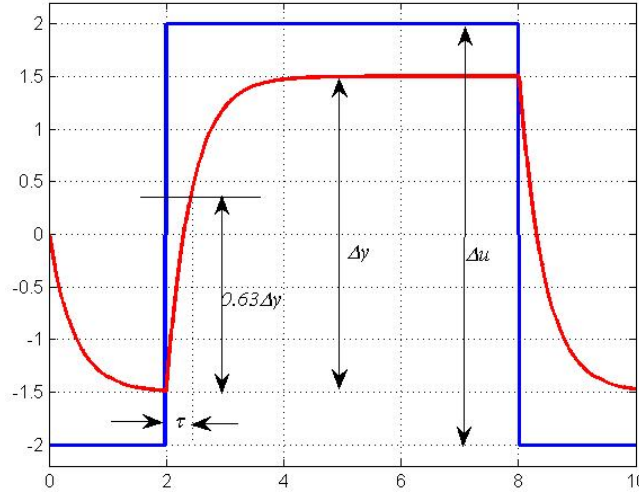

Figure 4: Model identification from step response
where, u_{init} and u_{final} are the input voltage levels before and after the transition, respectively. Output voltage before the transition is y_{init} and steady-state output after transition is y_{final} . Refer to Figure 4.
- Estimate time constant (τ) of the DC motor: It is equal to the time elapsed between the start of transition and the time when output is $0.63\Delta y$. Use the step response printout to estimate this value. Refer to Figure 4.